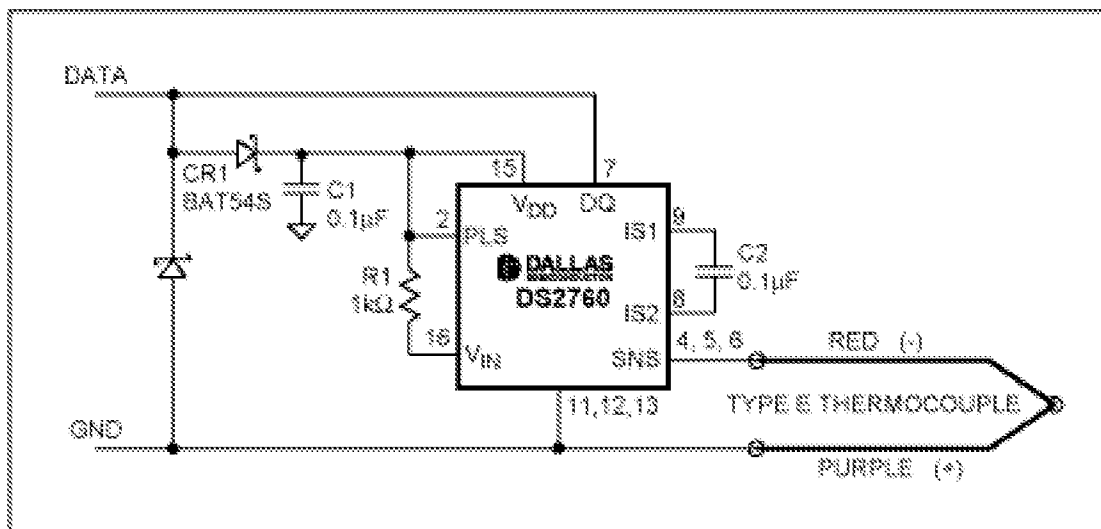

Figure 6. A DS2760 can convert a conventional TC into a smart sensor with multidrop capability.
One can also measure extreme temperatures using conventional thermocouples (TC) that are directly digitized at the cold junction using a DS2760 multifunction 1-Wire chip. The twisted-pair cable of the 1-Wire net covers the distance between the TC and bus master, effectively replacing the expensive TC extension cable normally used. Because of its unique ID address, multiple smart TCs can be arbitrarily placed where needed along the net, greatly minimizing the positioning and cost of an installation. With an LSB of 15.625µV, the chip can directly digitize the millivolt-level output produced between the hot and cold junctions of the typical TC as its on-chip temperature sensor continuously monitors the temperature at the cold junction of the TC. It contains user-accessible memory for storage of sensor-specific data such as TC type, location, and the date it was placed into service. This information minimizes the probability of error due to the mislabeling of sensors. Thus, a DS2760 can be used with any TC type because the bus master's calculations are based on the stored data and the temperature of the cold junction, as reported by the on-chip temperature sensor. Figure 6 illustrates both the simplicity and ease with which a DS2760 can be used to convert a standard thermocouple into a smart sensor with multidrop capability. Adding R1 allows V_{DD} to be measured, which is useful in troubleshooting to verify that the voltage available on the 1-Wire net is within acceptable limits.